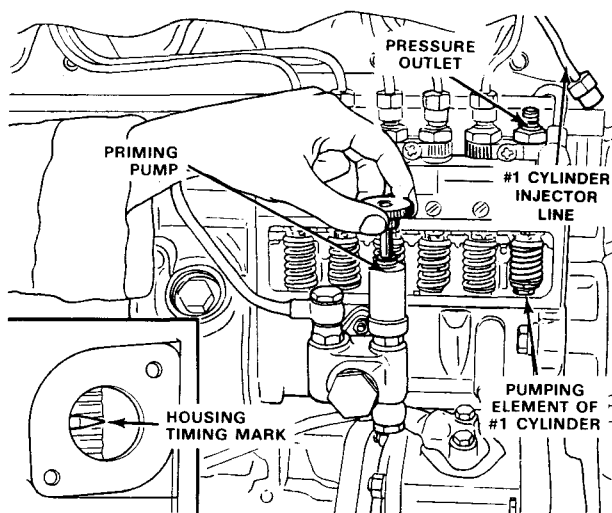

FIG. 15 Checking Pump/Engine Timing Using the "Spill Method" (SSD-655)
1. Crank the engine until the number one piston is on the compression stroke and the INIEZ mark on the flywheel is coming up to the pointer on the flywheel housing (Fig. 15).
3. Open the fuel valve, place the throttle control at maximum fuel, and fill the circuit with the priming pump (Fig. 15).